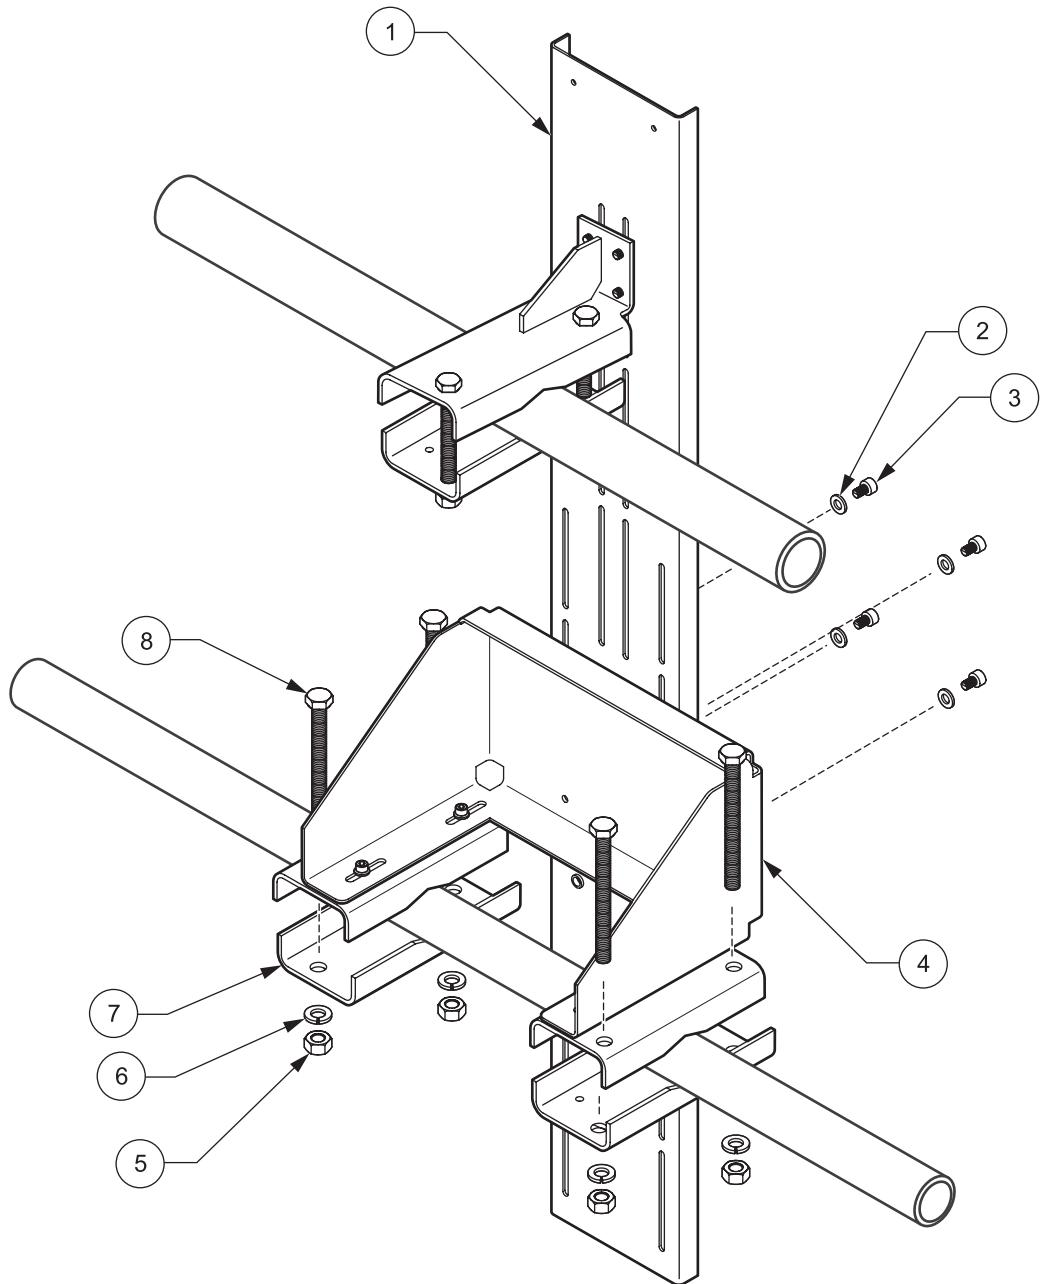

Figure 9 Installating the angle bracket on the mounting rail
5. Loosely mount the angle plate to the mounting rail with the M5 hex socket head screws. Loosely screw the angle plate to the bottom rail with two U profiles (see Figure 9 on page 9).